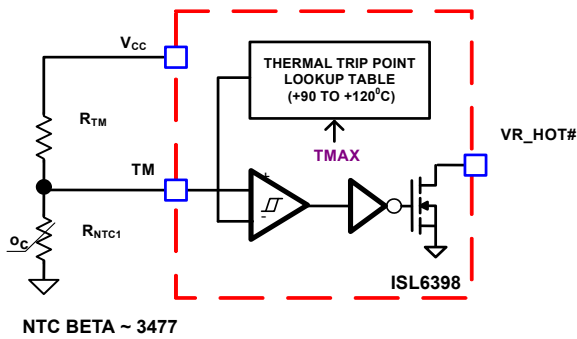
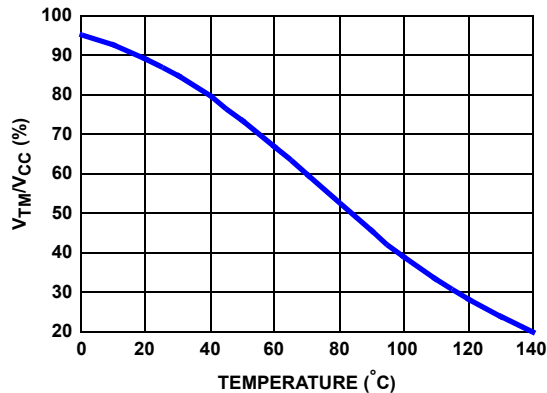

FIGURE 20. BLOCK DIAGRAM OF THERMAL MONITORING FUNCTION
FIGURE 21. THE RATIO OF TM VOLTAGE TO NTC TEMPERATURE WITH RECOMMENDED PARTS
The block diagram of thermal monitoring function is shown in Figure 20. One NTC resistor should be placed close to the respective power stage of the voltage regulator VR to sense the operational temperature, and pull-up resistors are needed to form the voltage dividers for the TM pins. As the temperature of the power stage increases, the resistance of the NTC will reduce, resulting in the reduced voltage at the TM pin. Figure 21 shows the TM voltage over the temperature for a typical design with a recommended 6.8kΩ NTC (P/N: NTHS0805N02N6801 from Vishay, b = 3477) and 1kΩ resistor R_{TM}. It is recommended to use those resistors for the accurate temperature compensation since the internal thermal digital code is developed based upon these two components. If a different value is used, the temperature coefficient must be close to 3477 and R_{TM} must be scaled accordingly. For instance, NTC = 10kΩ (b = 3477), then R_{TM} should be 10kΩ/6.8kΩ*1kΩ = 1.47kΩ.
There is a comparator with hysteresis to compare the TM pin voltage to the threshold set by the TMAX register (programmable via PMBus E8[2:0]) for VR_HOT# signal. With TMAX set at +100 °C, the VR_HOT# signal is pulled to GND when TM voltage is lower than 39.12% of V_{CC} voltage, and is open (pulled high through TM) when TM voltage increases to above 40.98% of V_{CC} voltage. The comparator trip point will be programmable by TMAX values. Figure 21 shows the operation of those signals.
Based on the V_{CC} voltage, the ISL6398 converts the TM pin voltage to a 6-bit TM digital signal for temperature compensation. With the non-linear A/D converter of ISL6398, the TM digital signal is linearly proportional to the NTC temperature. For accurate temperature compensation, the ratio of the TM voltage to the NTC temperature of the practical design should be similar to that in Figure 21.
When a different NTC type or different voltage divider is used for the TM function, the TCOMP voltage can also be used to compensate for the difference between the recommended TM voltage curve in Figure 21 and that of the actual design. If the same type NTC (β = 3477) but different value is used, the pull-up resistor needs to be scaled, as shown in Equation 20:
1. Properly choose the voltage divider for the TM pin to match the TM voltage vs temperature curve with the recommended curve in Figure 21.